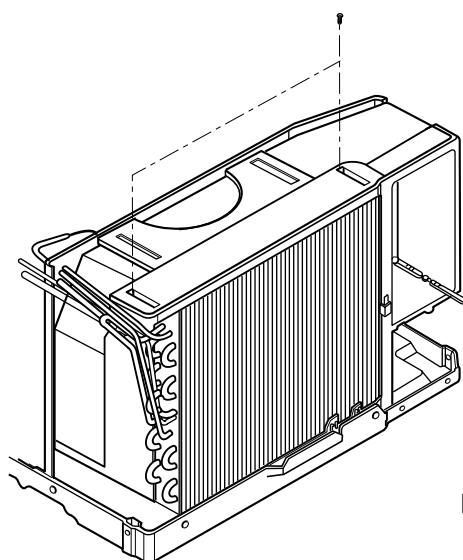

Figure 30
6. Re-install the component by referring to notes. (See Figure 30)